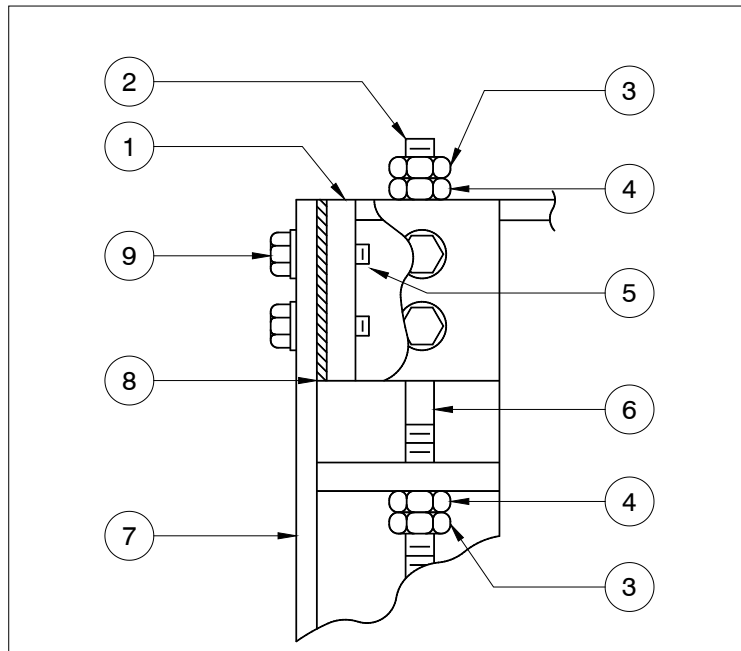

Figure 2.3a
1. Referring to Figure 2.3a, attach the cage adapter to the drive gear cage attachment, using the vertical adjusting studs (6) and hex nuts (4).
2. Loosely install the capscrews with lock washers (9).
3. Raise the cage to its highest position and secure the hex nuts (4).
5. Adjust the cage for plumb using the adjusting studs (6) and hex nuts (4).